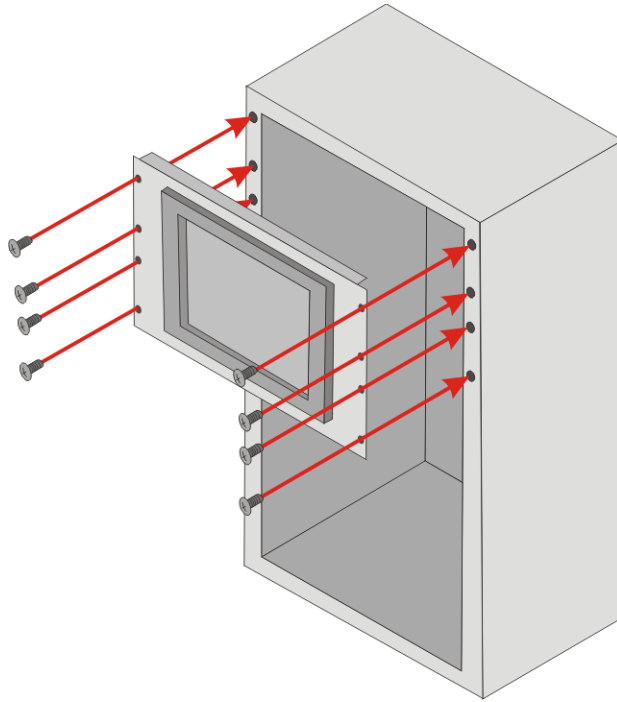

Figure 3-19: Install into a Rack/Cabinet
- Step 5:** Slide the PPC-5170 flat panel PC with the attached cabinet/rack bracket into a rack or cabinet (**Figure 3-19**).
Step 6: Once the PPC-5170 flat panel PC with the attached rack/cabinet bracket has been properly inserted into the rack/cabinet, secure the front of the rack/cabinet bracket to the front of the rack/cabinet (**Figure 3-19**).